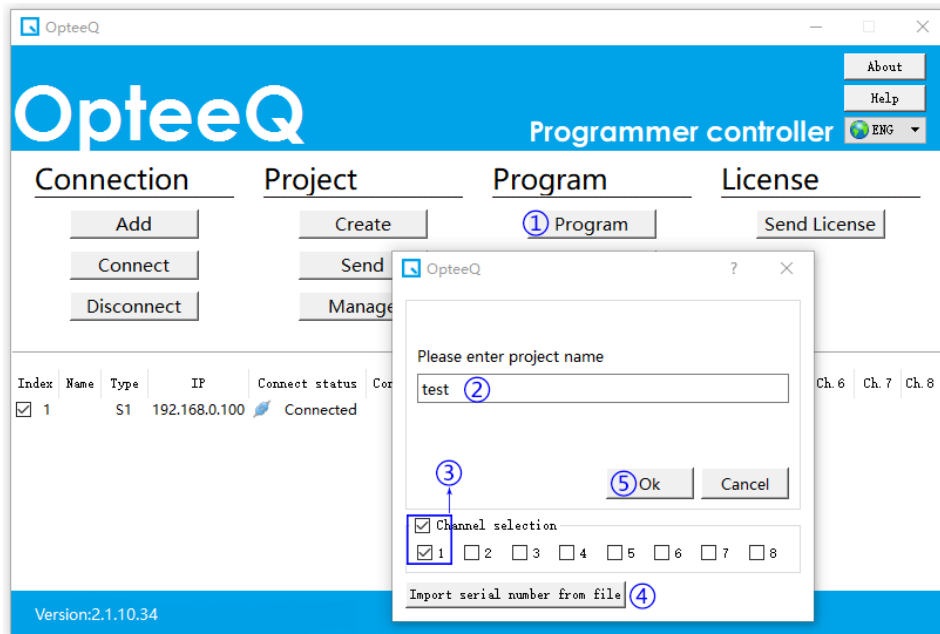

Figure 4.19: Program
- 1) Click "Program" (as shown in Figure 4.19-①).
- 2) Pop up a dialog box "Project to be Programmed" to input the project name to be programmed (as shown in Figure 4.19-②).
- 3) Check "Select Channel" in the dialog box. Notes: S1 Programmer only Select Channel 1 (as shown in Figure 4.19-③).
- 4) Click "Import Serial Number from File" to set dynamic data for the chip (for specific operations, please refer to Chapter 5 "Programming Serial Number" herein). If it is not intended to set dynamic data for the chip, this option may be omitted (as shown in Figure 4.19-④).
- 5) Click "OK" to start programming (as shown in Figure 4.19-⑤).